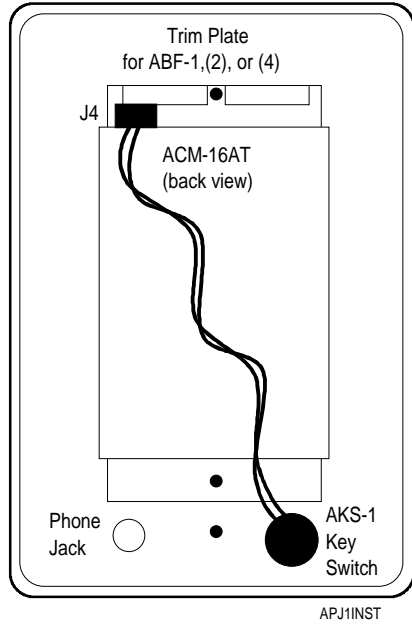

Figure 8: AKS-1 Installation (Back View)
3. Install the Key Switch (AKS-1) in the ABF-1, ABF-2, or ABF-4 trim plate (Figure 8). Plug the switch leads from the AKS-1 into connector J4 on the annunciator.